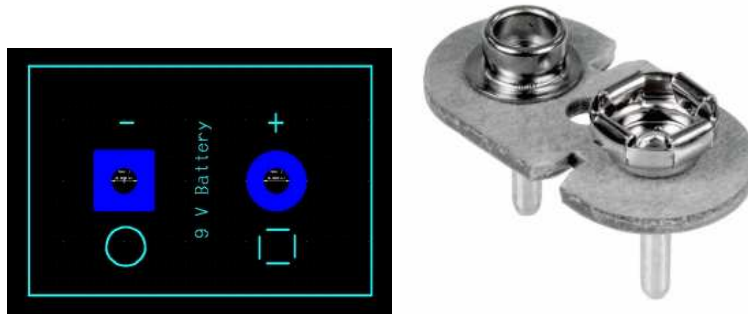

Figure 4: Battery connector
We will use a custom battery connector for this board and there is not an existing footprint in the library that corresponds to the physical layout of this part, so we will create a footprint of our own. Refer to Figure 4 for the following section.
- Arrange the labels sensibly. See Figure 4. Select a label and press **Ctrl-R** to rotate it.